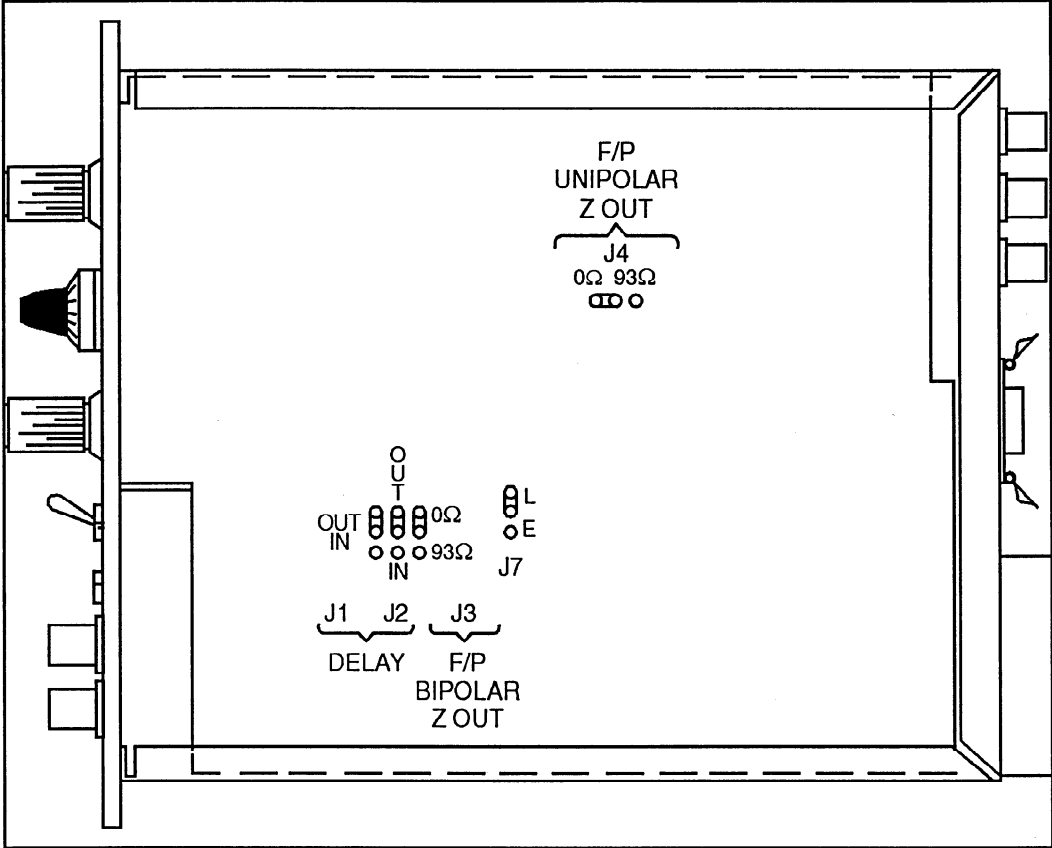

Figure 2.3 Internal Controls (Right Side Cover Removed)
1. Prior to installation, the internal controls should be set to their desired positions. See Figure 2.3 for the locations of the controls.
Faster shaping-time constants (0.5 through 4 μ s) give rise to output noise spectra having different frequency components than the slower shaping-time constants (5 through 12 μ s). The Model 2022 provides a restorer response for each of the two conditions: linear (L) response for the faster time constants and an exponential (E) response for the slower time constants. Jumper plug J7 (see figure 2.3) selects the required response. Shipped in the linear (L) position. See Section 3.2.1, "System Setup, Internal Controls" for more information.